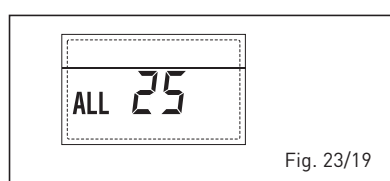

Fig. 23/19
– **ANOMALÍA DE LA Sonda AUXILIAR (S3) “AL 26”** (fig. 23/20)